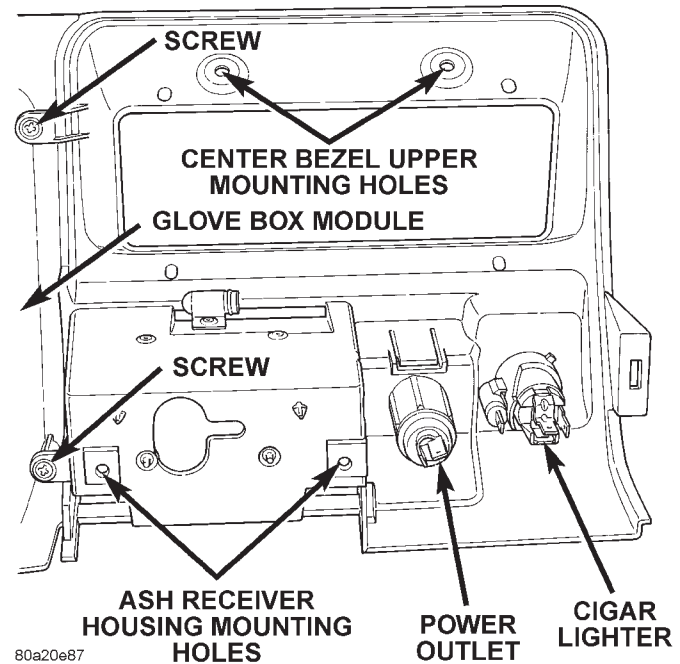

Fig. 17 Instrument Panel Center Bezel Remove/Install
(1) Remove the glove box module from the instrument panel. See Glove Box Module in this group for the procedures.
(2) Remove the two screws located on the back side of the glove box module that secure the instrument panel center bezel to the inboard end of the glove box module (Fig. 17).